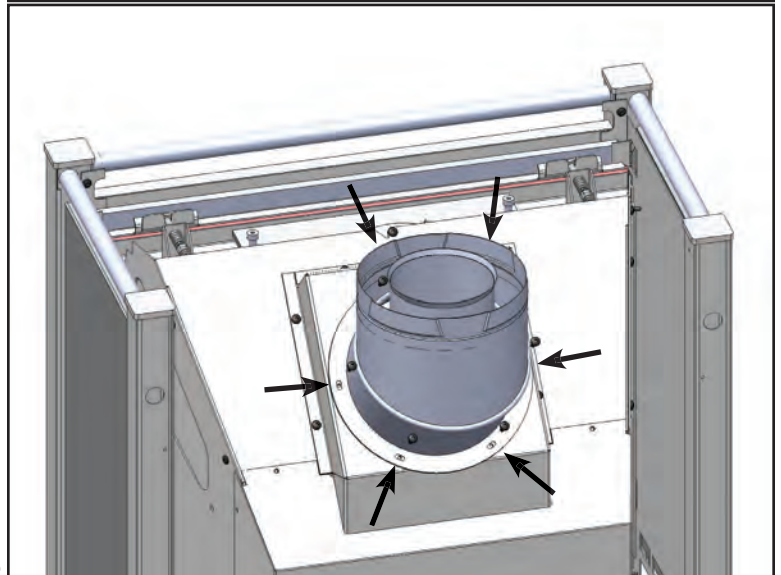

Fig.18
6. Remove screws from flue collar (6 screws). (Fig.18)